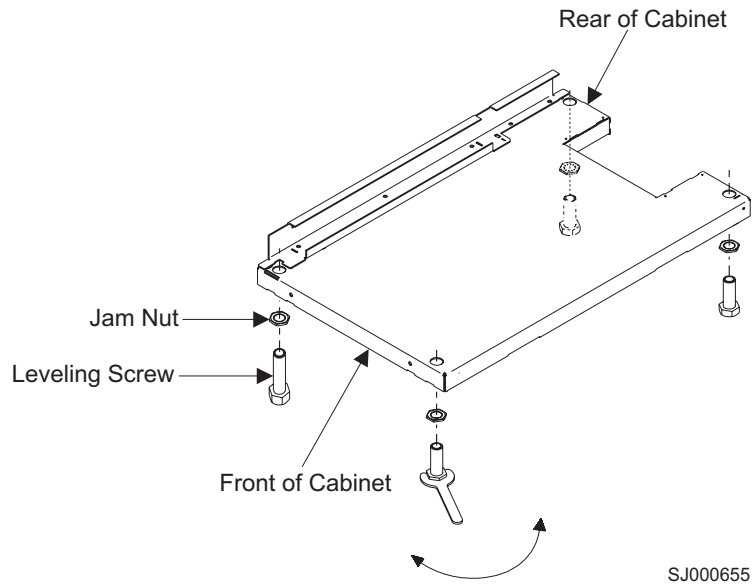

Figure 5. Leveling the cabinet
26. Adjust the leveling screw downward, as needed, until the cabinet is level. See Figure 5 on page 6. When the cabinet is level, tighten the jam nuts against the base by turning the jam nut clockwise, toward the bottom of the cabinet. Torque the four bolts to 54–67 nm (40–50 ft-lbs).